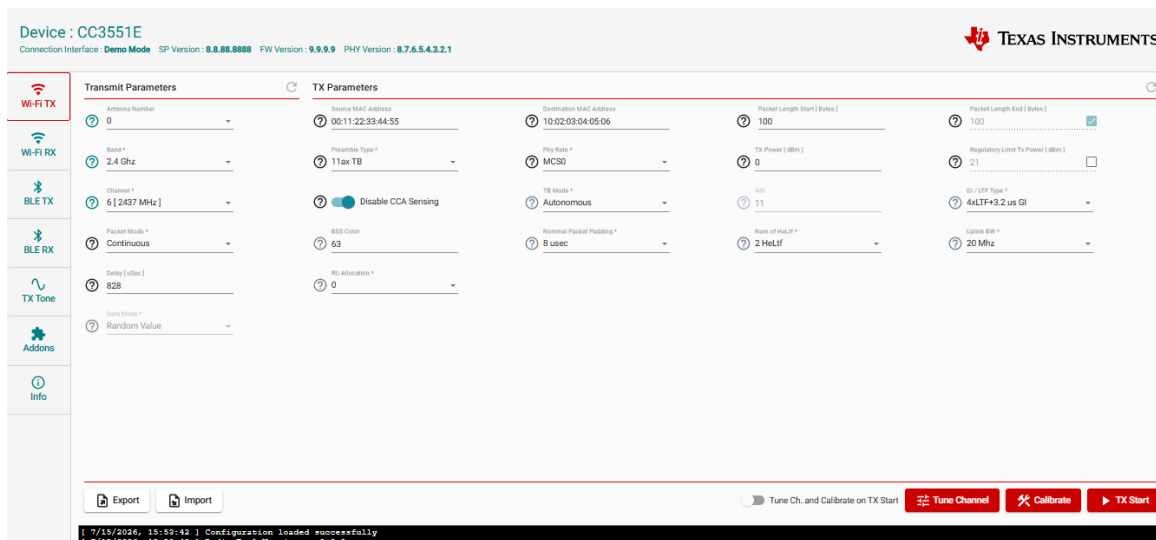

Figure 5-3. Wi-Fi TX 11ax TB Radio Tool Homepage
If desired, Trigger Based (TB) testing can be performed by selecting *11ax TB* under *Preamble Type*. The screen must match Figure 5-3 after doing so.